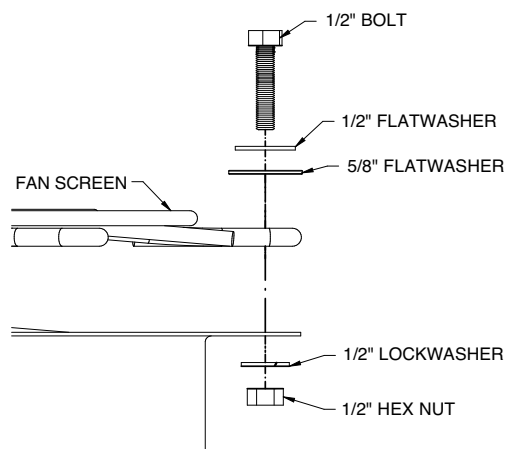

Figure 12 – Attaching Fan Screen to Cylinder
4. At each hole, attach the fan screen to the discharge cylinder as shown in Figure 12.